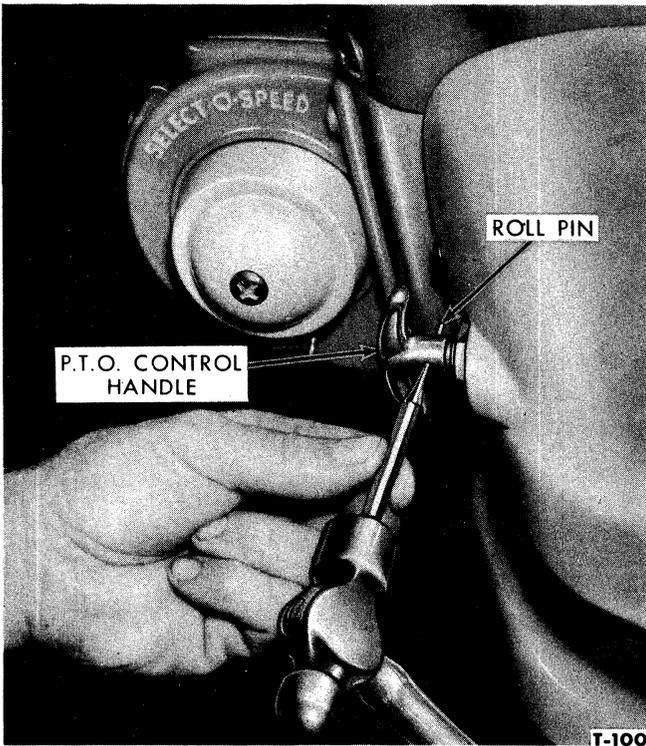

Figure 1—Removing P.T.O. Control Handle
3. On tractors equipped with Select-O-Speed transmission, carefully drive the roll pin out of the P.T.O. control handle as shown in Figure 1. Remove the handle, nut and washer that attaches the control cable housing to the right rear side of the hood.
3. On a tractor equipped with Select-O-Speed transmission, carefully drive the roll pin out of the P.T.O. control handle as shown in Figure 1. Remove the handle, nut and washer that attaches the control cable housing to the right rear side of the hood.
3. On tractors equipped with a Select-O-Speed transmission, carefully drive the roll pin out of the P.T.O. control handle as shown in Figure 1. Remove the handle, nut and washer that attaches the control cable housing to the right rear side of the hood.